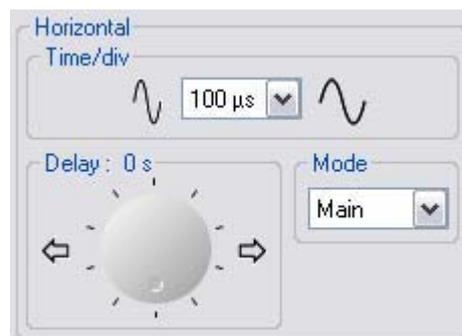

Figure C-85 – Soft Front Panel of the Horizontal System Controls
- The horizontal controls allow you to adjust the horizontal scale and position of waveforms. The horizontal center of the screen is the time reference for waveforms. Changing the horizontal scale causes the waveform to expand or contract in the center of the screen. It provides functions of **Time Base**, **Delay**, and **Mode** for the horizontal scale adjustment. This is shown in Figure C-85.